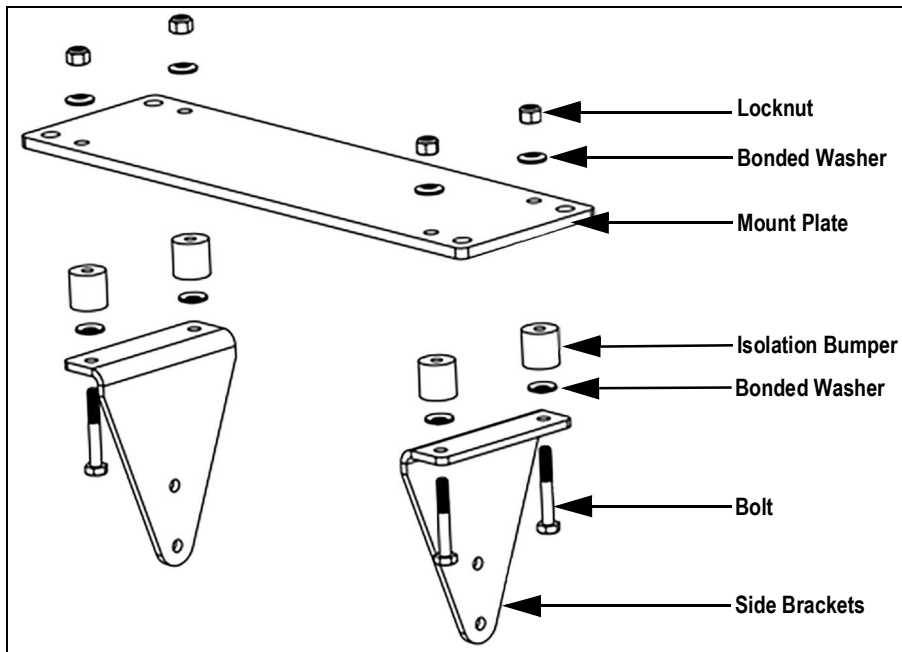

Figure 3. Universal Mounting Kit (PN 131630)
1. Install side brackets to the mount plate, using the isolation bumpers and hardware provided (Figure 3).